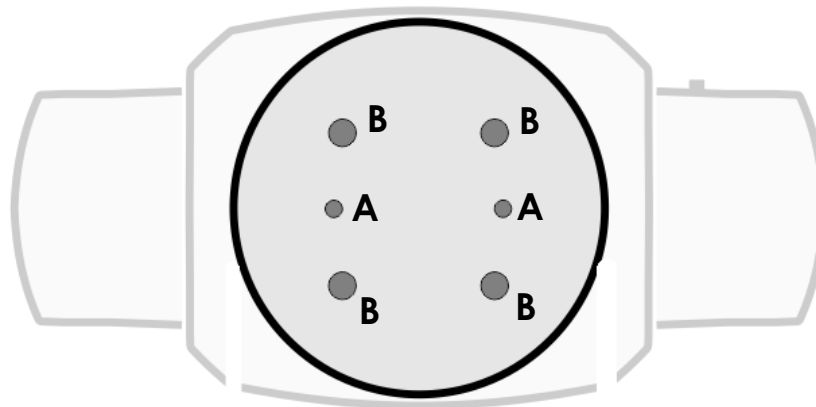

Figure 8 Mounting points in base
See Figure 8. The base of the impression S350 has two threaded holes **A** that accept M10 bolts or screws, and four mounting points **B** that accept standard camlock quarter-turn fasteners. The camlock center-to-center distance is 90 mm (3.54 in.).
2. See Figure 8. Fasten the bolts through the half-coupler clamps and into holes **A** in the base of the fixture so that the clamps are held securely.